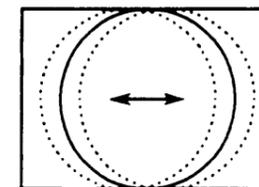

Fig 1.
- Adjust the horizontal location to obtain picture centring (fig. 1).